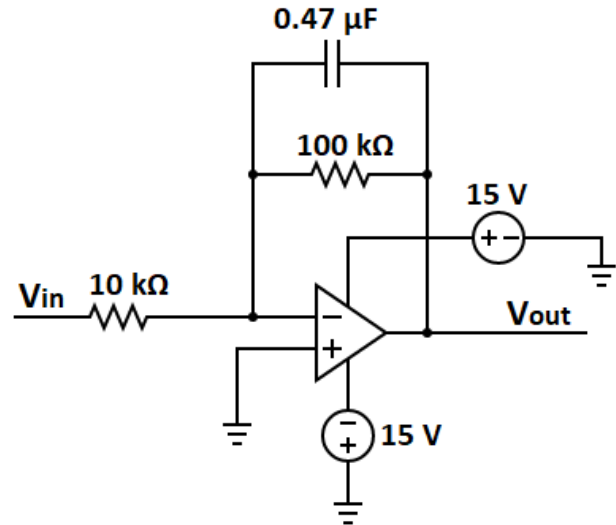

Fig. 3: Circuit for integrating a square wave.
The circuit shown in Figures 3 and 4 is connected to the output of a square wave generator. This configuration allows the circuit to integrate the square wave signal. When the square wave is at a positive voltage, the integrator's output decreases linearly over time, producing a downward ramp. Conversely, when the square wave switches to a negative voltage, the integrator's output increases linearly, creating an upward ramp. This behavior occurs because the integrator operates in an inverting configuration, where the polarity of the input signal is reversed in the output. Consequently, the integrator circuit transforms the square wave input into a triangular wave output, providing a distinct and predictable waveform for further analysis or use. Note that the triangular wave frequency is the same as the square wave.
- 1) Assemble the triangular wave generator circuit as shown in Figures 3 and 4. Ensure all connections are secure and components are correctly placed according to the schematic. The input to the circuit is a square wave with a peak-to-peak voltage (V_{pp}) of 4 V and a frequency of 50 Hz.